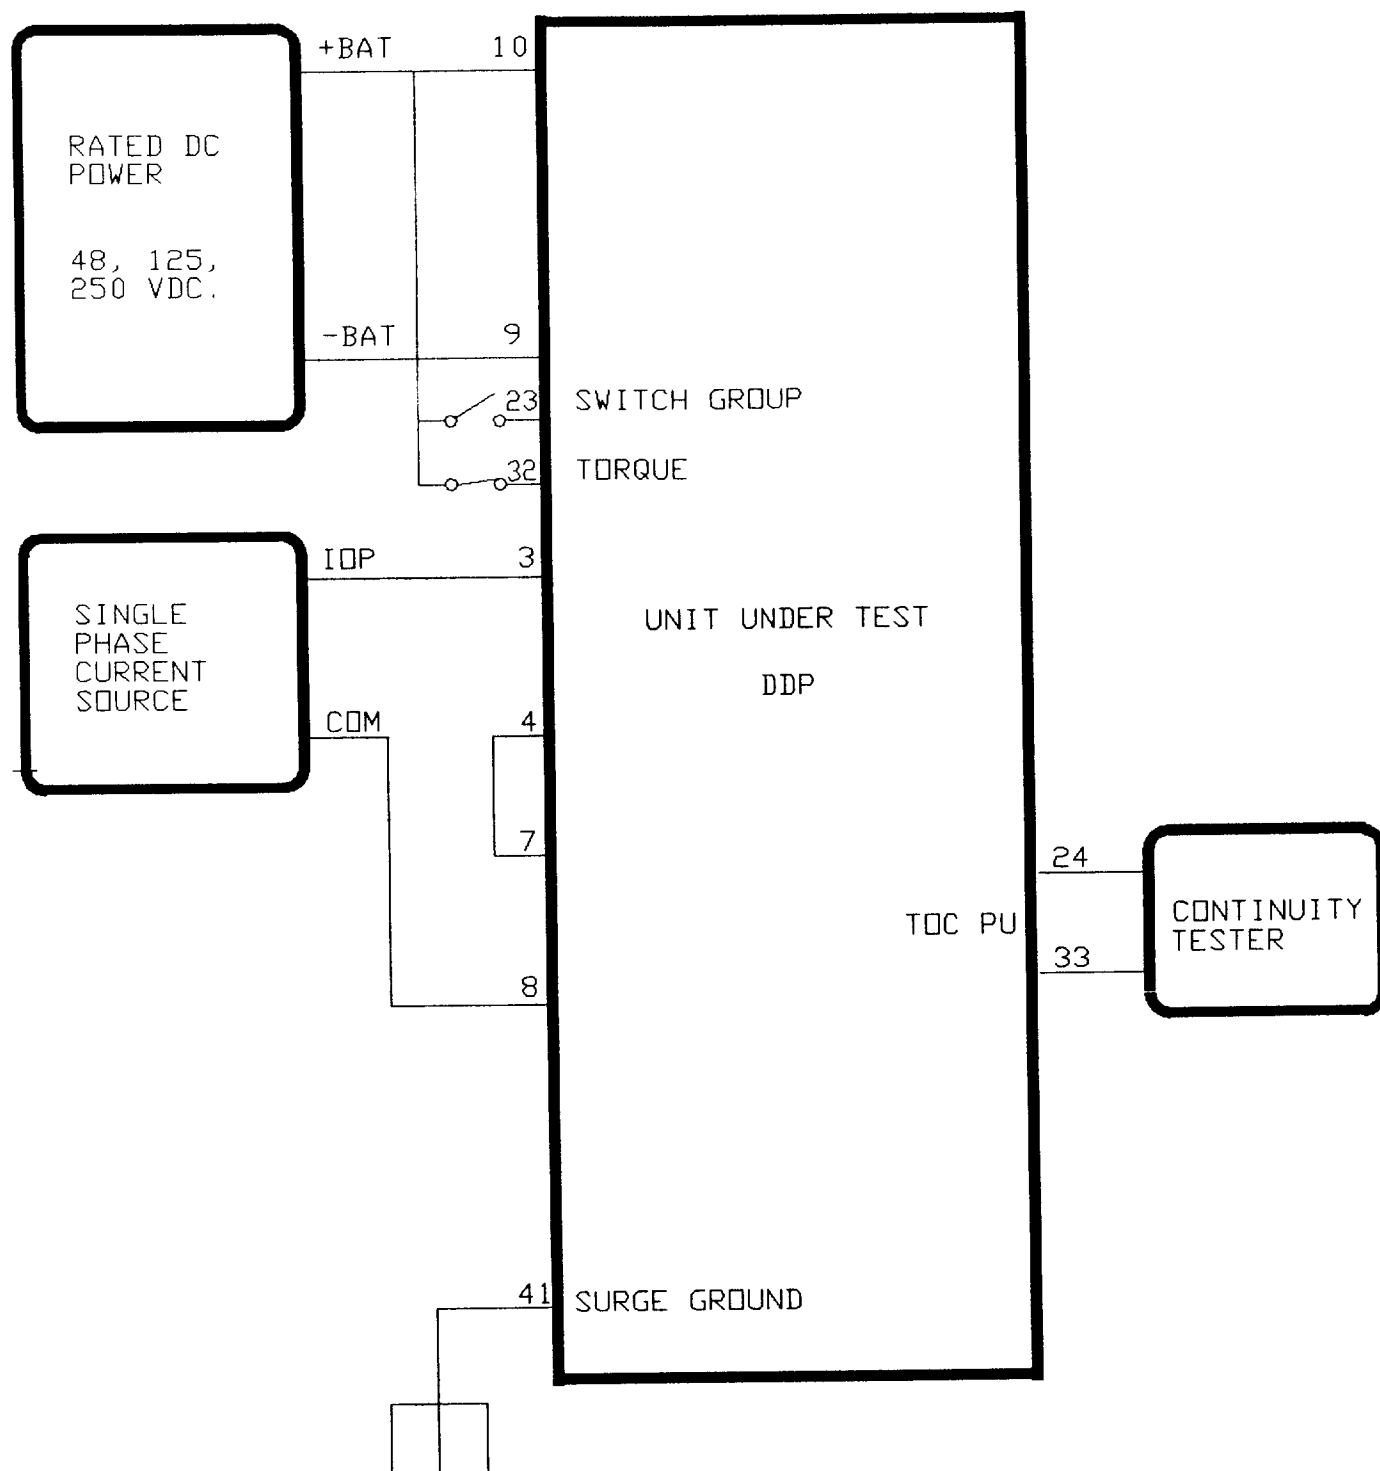

Figure AT-6(0285A5381 [2]) DDP TOC Ground Pickup Test Connections
1. Connect as per figure AT-6 and Open the TORQUE switch.